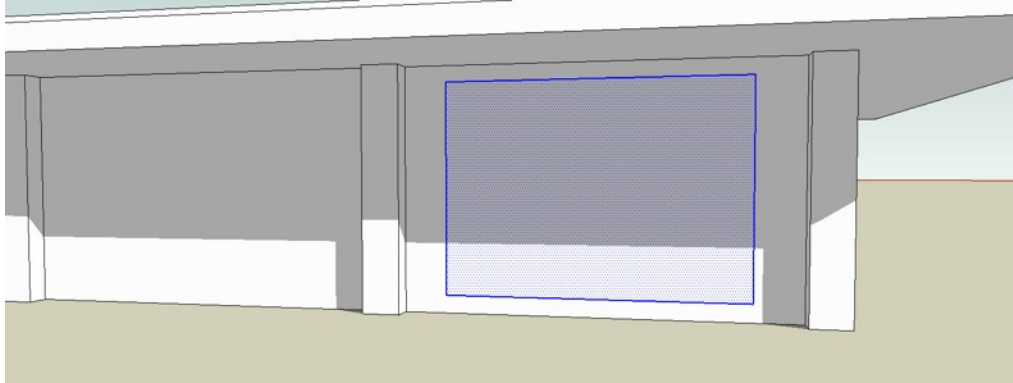

Figure 48. Rectangle drawn on the building face and selected
- Use **Orbit** and **Pan** to view Building 1 as shown in Figure 48. You may find it useful to use the **Position Camera** and **Look Around** commands also.
- Use **Rectangle** to draw a rectangle 3500mm long and 2500mm high in the position as shown in Figure 48. It does not matter where on the face the rectangle is placed at this stage.